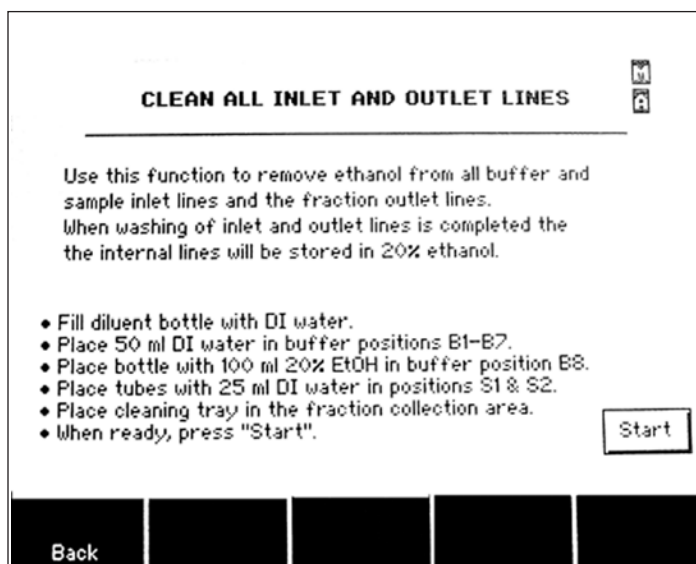

Fig. 9.12. Clean All Inlet and Outlet Lines screen.
4. Follow reagent placement instructions displayed on the screen (Figure 9.12).